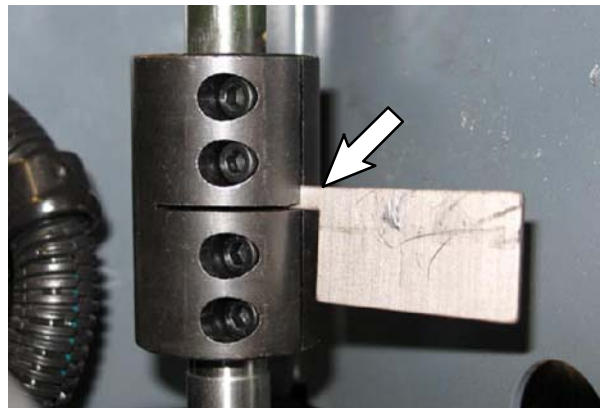

FIG. 40
14. Lift the steering shaft (1) and reinsert the shim (2) into the steering coupling (3). (Fig. 40)